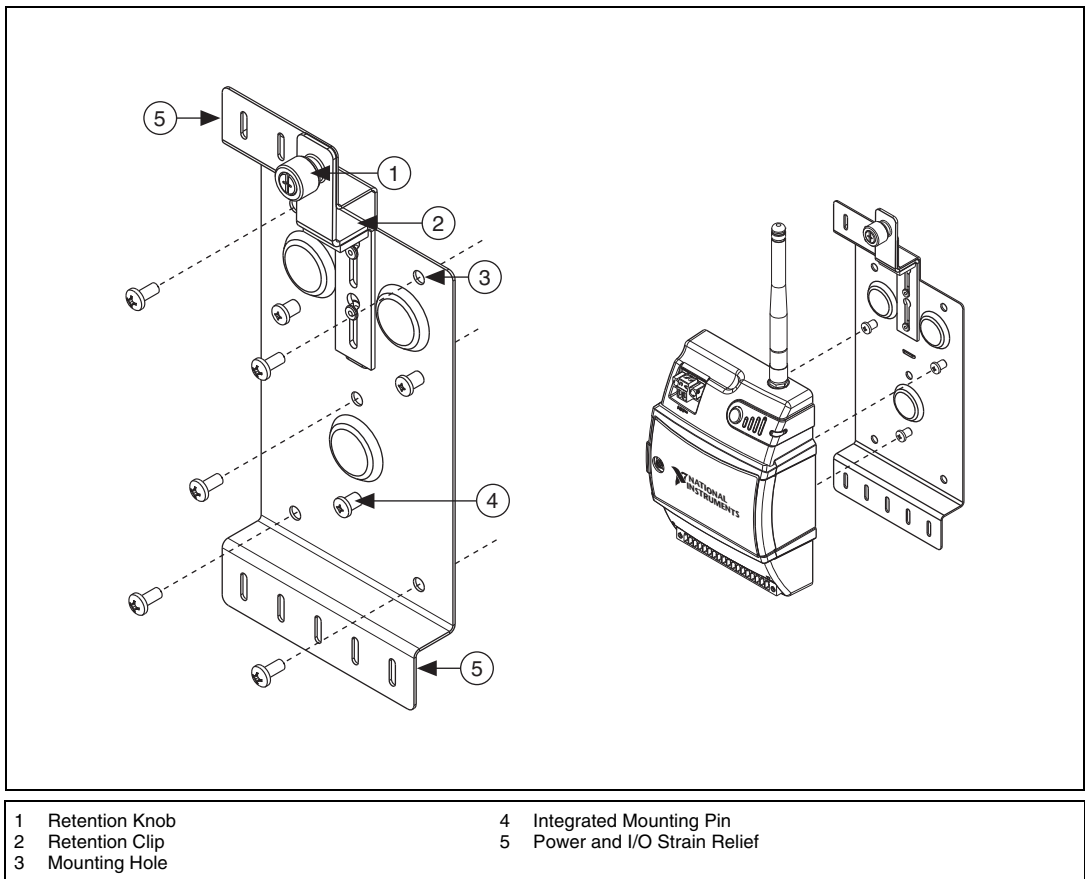

Figure 7. Panel Mount Accessory
Refer to Figure 7 while completing the following steps to mount the NI WSN-3230/3231 on a panel:
2. Slide the NI WSN-3230/3231 device into the panel mount accessory, as shown in Figure 7.